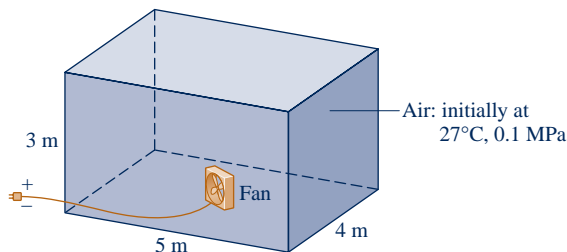

Fig. P3.117
- 3.117** As shown in Fig. P3.117, a fan drawing electricity at a rate of 1.5 kW is located within a rigid enclosure, measuring 3 m × 4 m × 5 m. The enclosure is filled with air, initially at 27°C, 0.1 MPa. The fan operates steadily for 30 minutes. Assuming the ideal gas model, determine for the air (a) the mass, in kg, (b) the final temperature, in °C, and (c) the final pressure, in MPa. There is no heat transfer between the enclosure and the surroundings. Ignore the volume occupied by the fan itself and assume there is no overall change in internal energy for the fan.